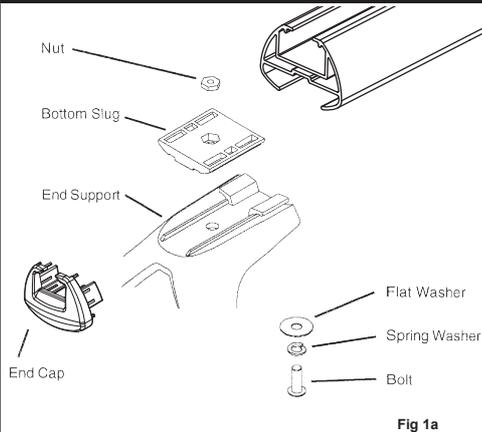

Fig 1a
- Loosely** fasten using the Security Bolt, Spring Washer and Flat Washer. Assemble as shown in (Fig. 1a) or (Fig. 1b)